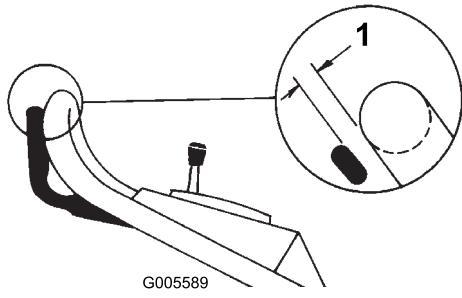

Figure 23
5. Lift the control bar until you feel some resistance. The control bar should be 1-1/2 inches (4 cm) from the handle when it is properly adjusted (Figure 23).
- Tighten the bottom jam nut to lock the top jam nut against the support block (Figure 23).